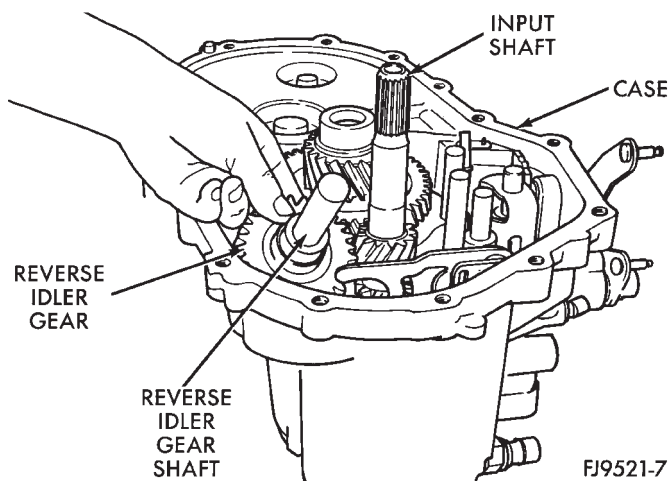
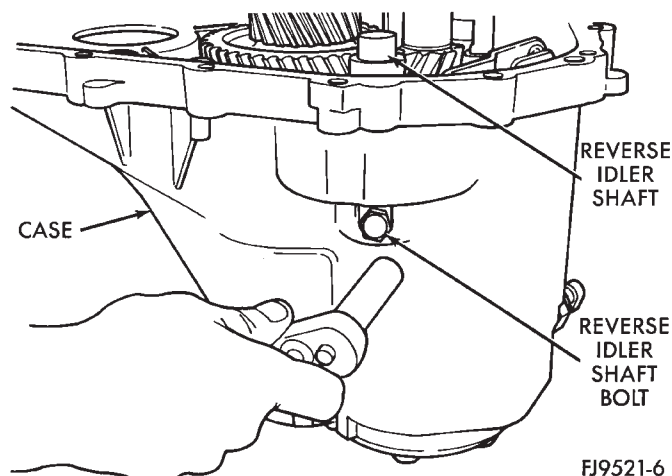

Fig. 80 Reverse Idler Gear
Fig. 81 Reverse Idler Shaft Bolt
(17) Push selector shaft spacer clip onto selector shaft. Install shift levers.
(18) Install reverse idler gear and shaft. Install bolt into shaft. Tighten bolt on shaft to 26 N·m (19 ft. lbs.) torque (Fig. 80) (Fig. 81).